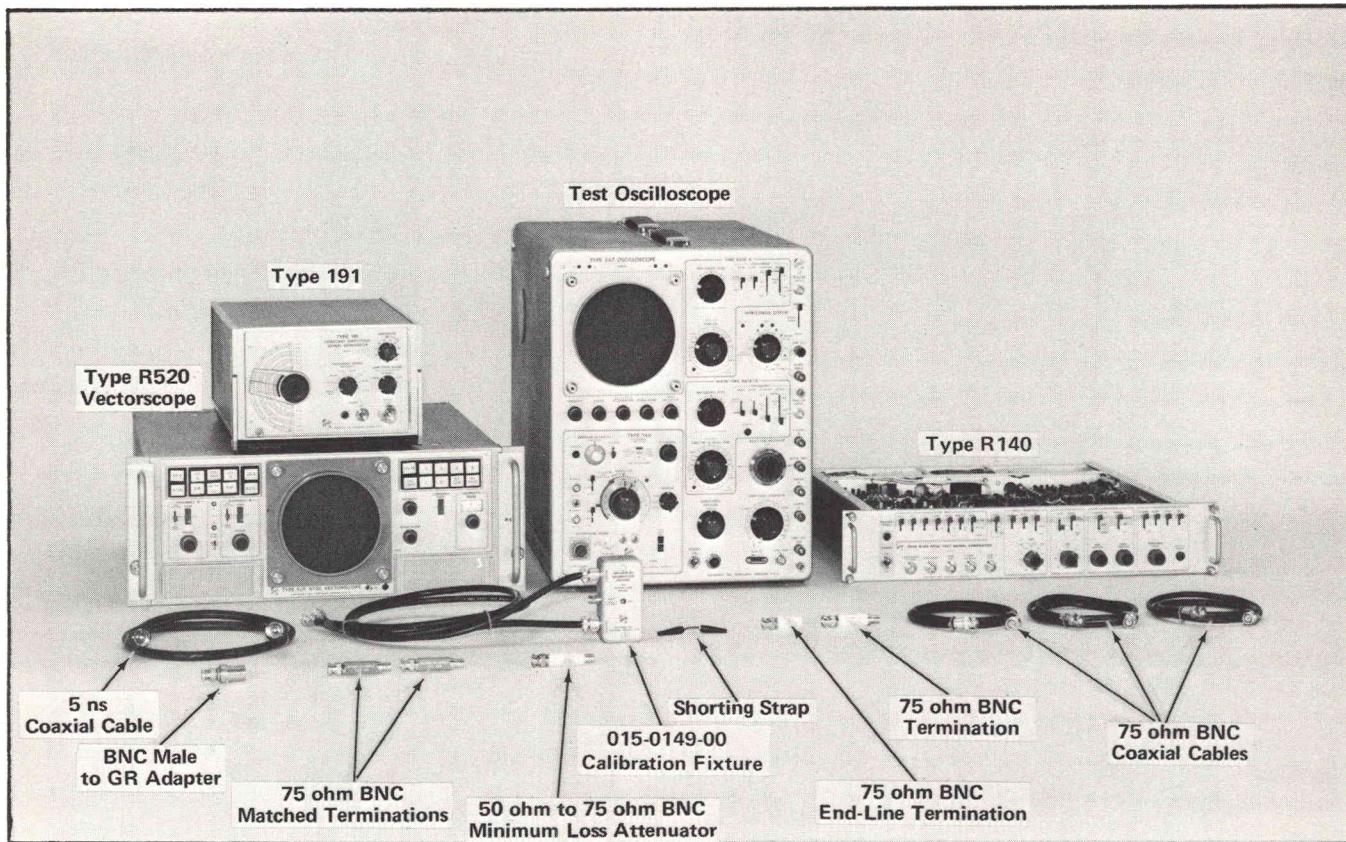

Fig. 5-48. Test equipment required for steps 43 through 46.
a. Test equipment is shown in Fig. 5-48.